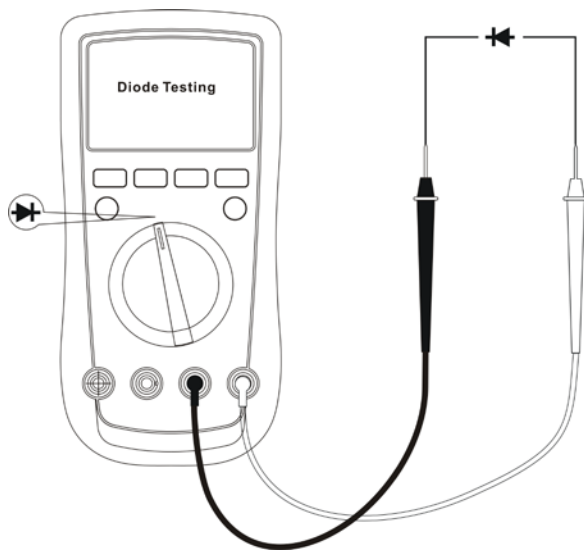

Figure 9
F. Diode Testing (see figure 9)